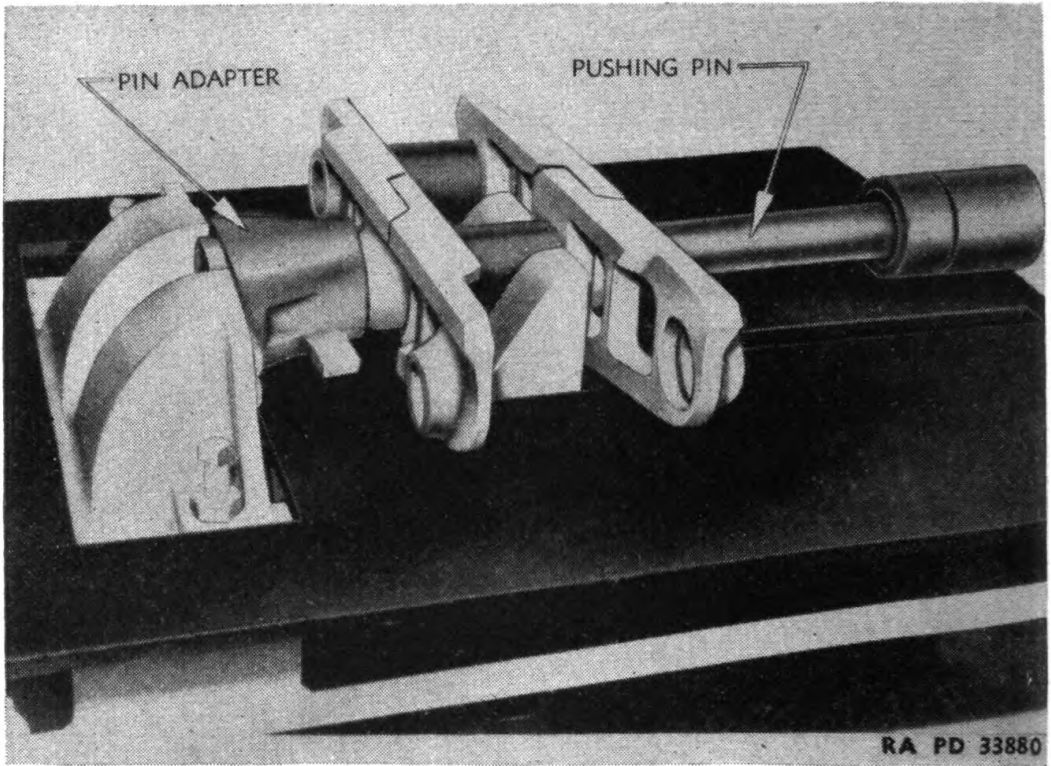
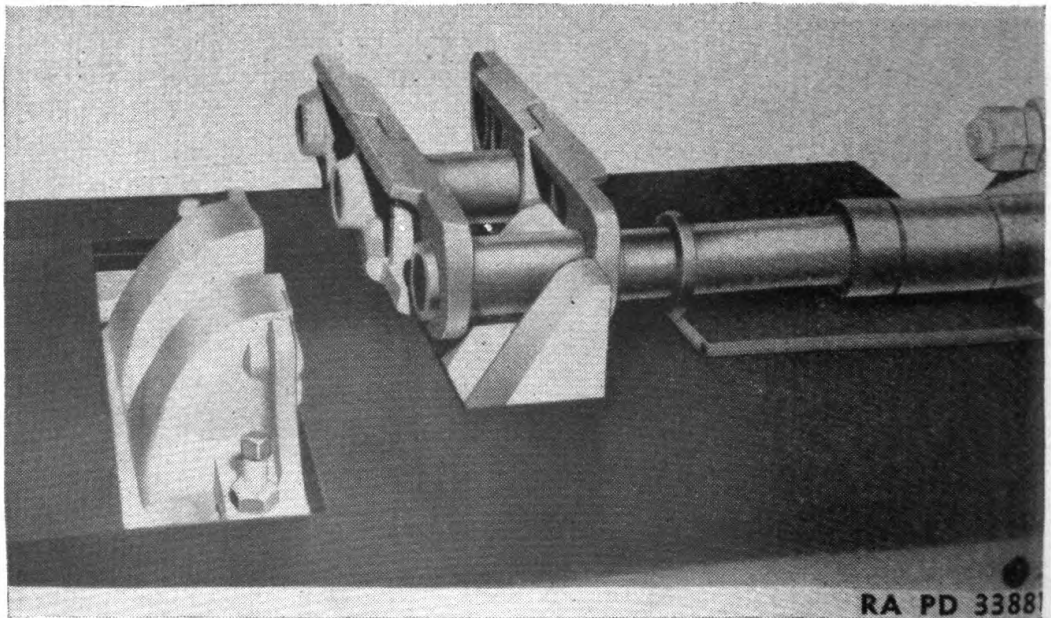
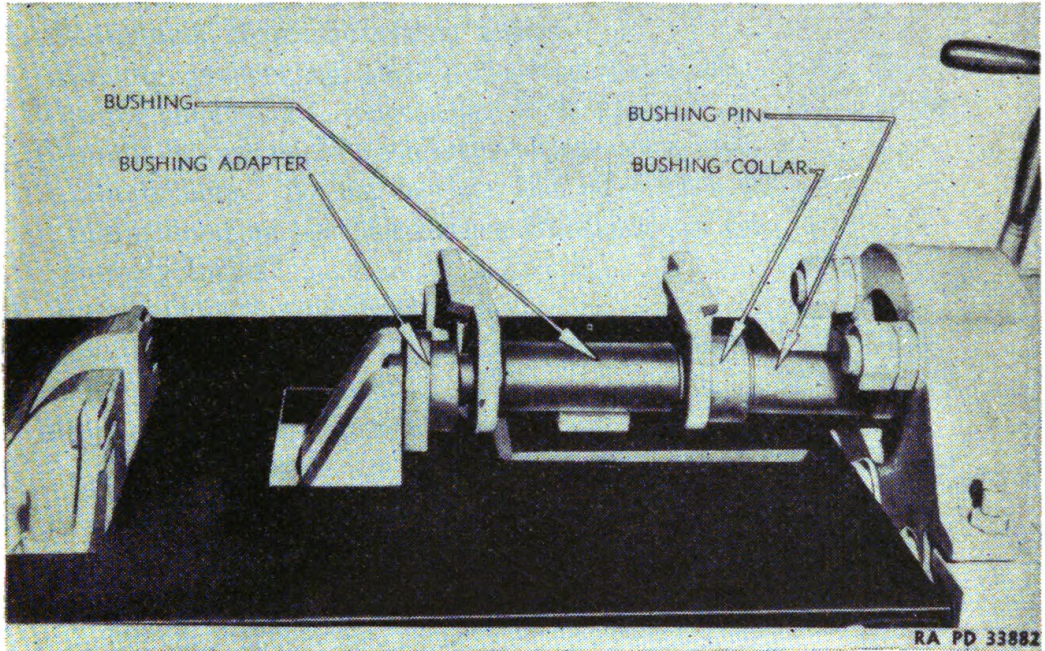

FIGURE 164.—Pressing out track pins using pin adapter and pushing pin.
FIGURE 165.—Pressing bushing out of link with bushing pusher.
FIGURE 166.—Pressing bushing in place using bushing adapter, bushing assembly pin and bushing collar.
NOTE.—Figures 164, 165, 166, and 167 show the use of a heavy duty power press.
b. To remove press out track pins using a pin adapter and pushing pin (fig. 164.) Press bushing out of one link using jaws and bushing pusher (fig. 165.) Turn link around and then press bushing out of the single link. Press bushing in place using a bushing adapter, bushing assembly pin, and bushing collar (fig. 166).